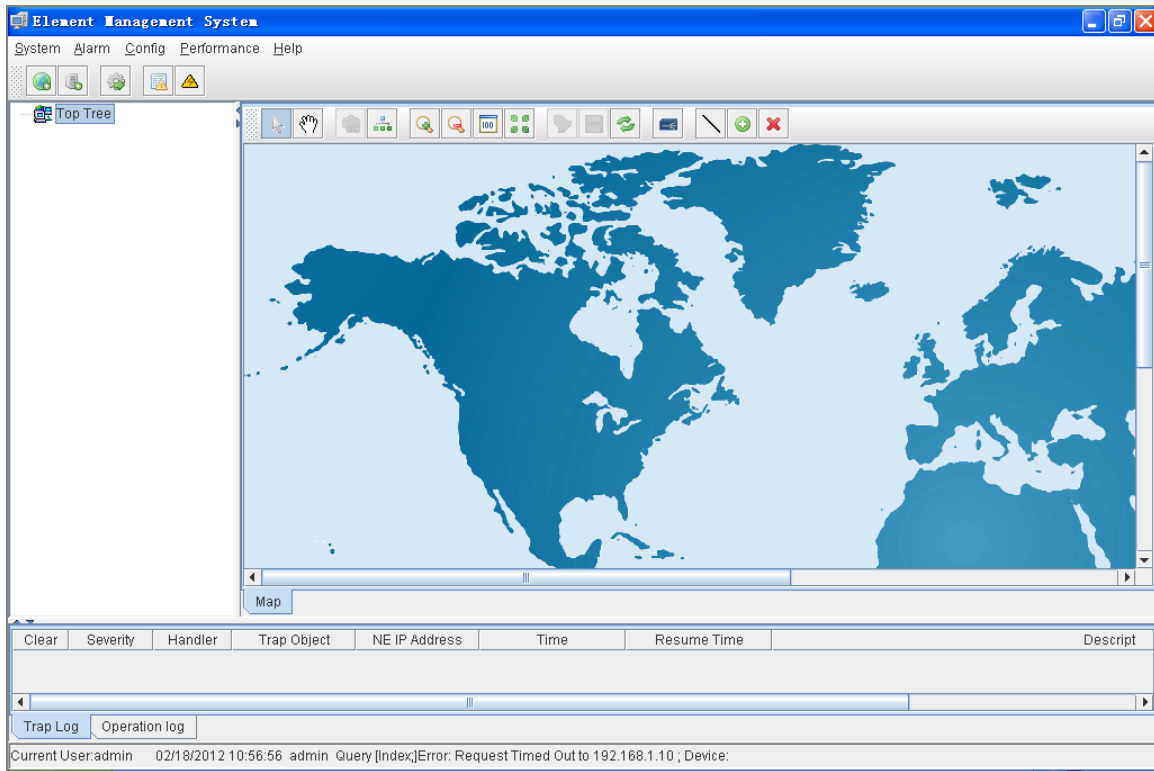

Figure 3-25 Main Screen of EPL-2000 GEPON OLT
3. After entering the User name and Password, the PL-EMS main screen appears as Figure 3-25.